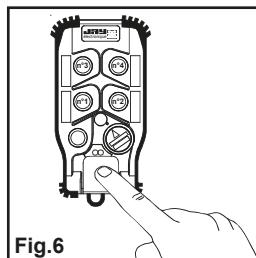

Fig.6
- 8- Exit the "locking - unlocking" configuration mode by pressing the stop palmswitch button (fig.6).